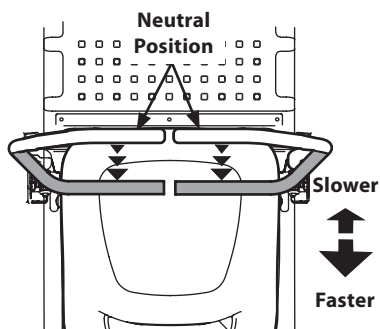

Figure 25
1. Slowly and evenly move both lapbar drive control levers rearward. The tractor will start to move in the reverse direction (Figure 25).